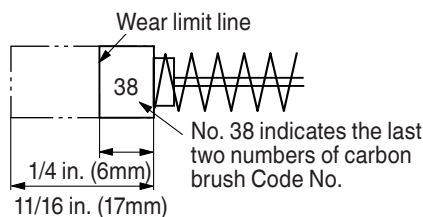
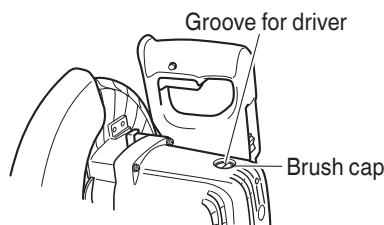

Fig. 37
Fig. 38
3. Inspecting the carbon brushes (Fig. 37 and Fig. 38)
The carbon brushes in the motor are expendable parts. If the carbon brushes become excessively worn, motor trouble might occur. Therefore, inspect the carbon brushes periodically and replace them when they have become worn to the wear limit line as shown in Fig. 37. Also, keep the carbon brushes clean so that they will slide smoothly within the brush holders. The carbon brushes can easily be removed after removal of the brush caps (see Fig. 38) with a slotted (minus) screwdriver.